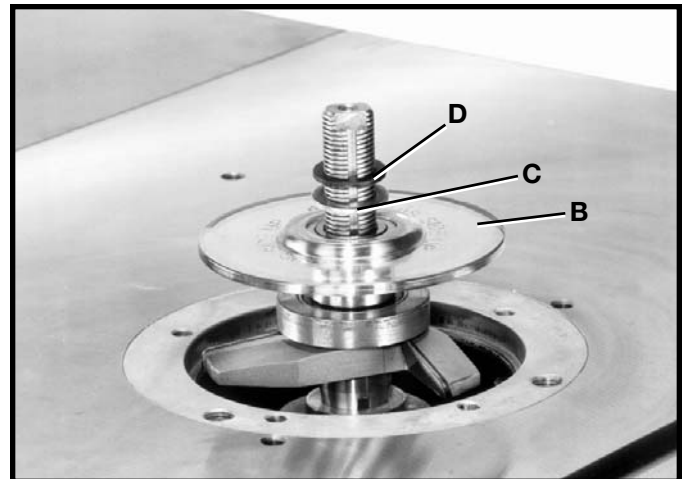

Fig. 39
2. Place the spindle guard (B) Fig. 39, on the spindle, then place the other washer (C) and "keyed" washer (D) on the spindle as shown.
4. **IMPORTANT: Always place "keyed" washer (D) Fig. 39, on spindle before screwing on spindle nut (E) Fig. 40. The "keyed" washer (D) Fig. 39, prevents the spindle nut (E) Fig. 40, from loosening when the spindle turns counterclockwise.**